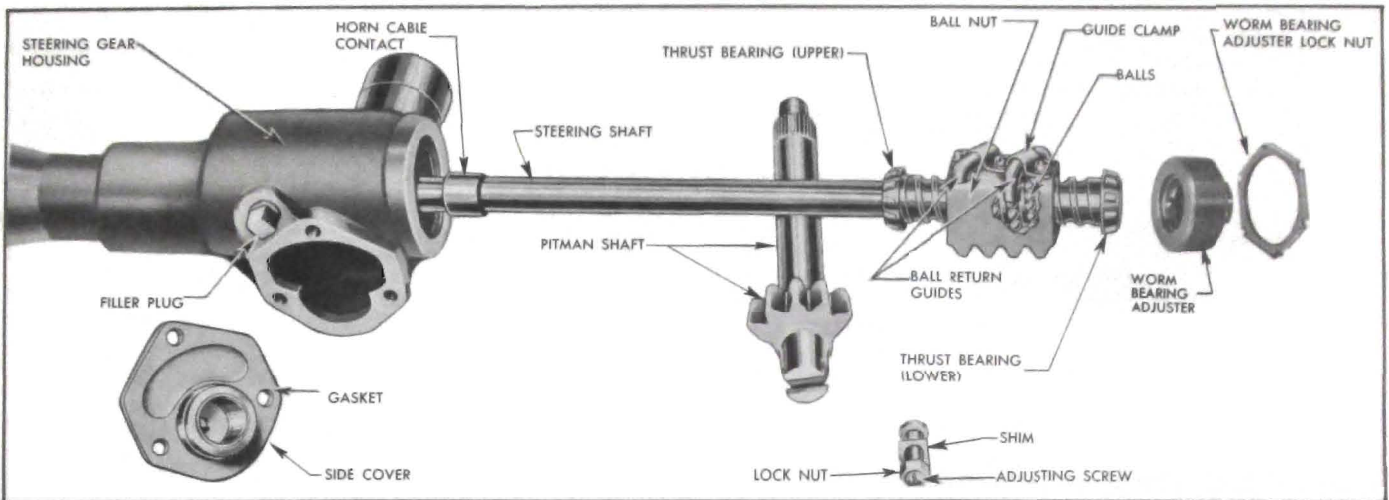

Figure 8-8—Manual Steering Gear Disassembled
1. Loosen adjusting screw lock nut. Remove three side cover bolts and remove housing side cover by unscrewing the adjusting screw. See figure 8-8.